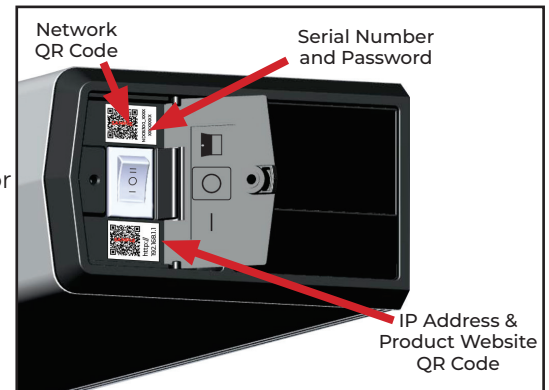

Fig. 16
- Operator serial number, password and IP address are located inside end cap. (Fig. 16)
- Scan the Network QR Code located on the switch end cap of the operator to automatically connect to the product's WiFi network. (Fig. 16)
To access the website using the Smart Device's camera: Use the camera application on your smart device to scan the Product Website QR Code located on the switch end cap of the operator. (Fig. 16)